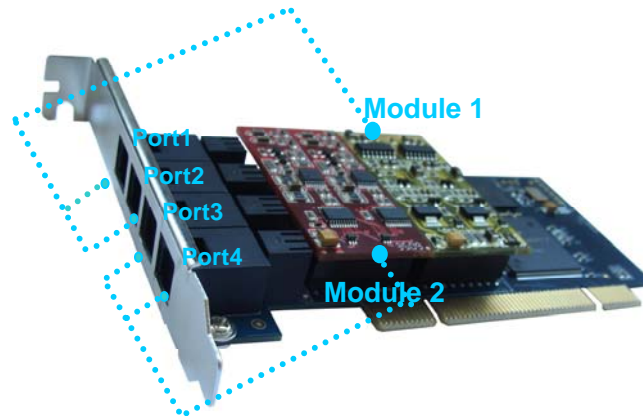

Figure 2-6 Modules and RJ11 Jacks
Figure 2-6 below shows the corresponding relationship between the modules on the motherboard and the RJ11 jacks.
- 1) What each RJ11 jack corresponds to is the module position but not the module type. For example, as shown in Figure 2-6 above, Port 1 and Port 2 are connected to Module 1, no matter Module 1 is FXO, FXS or FXC. Likewise, Port 3 and Port 4 correspond to Module 2, no matter Module 2 is FXO, FXS or FXC.